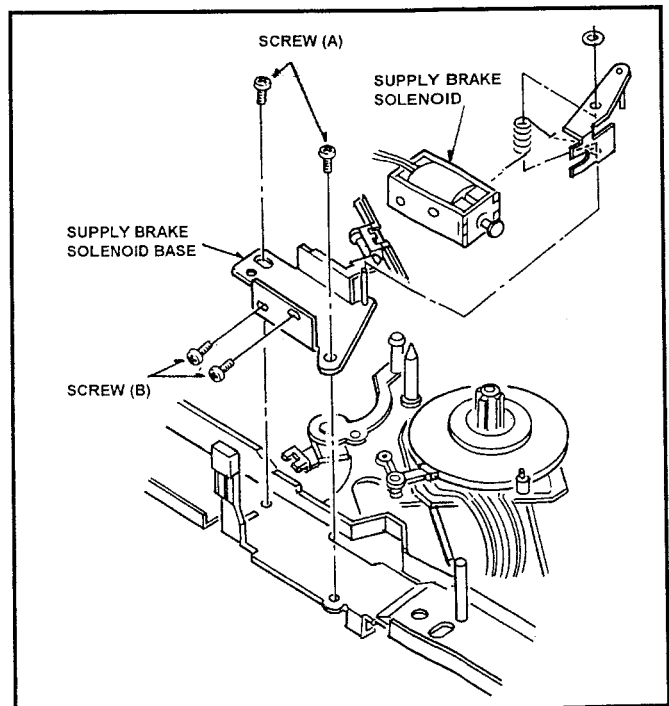

Fig. 6-10-1 Removal of Supply Brake Solenoid
6. Unscrew the 2 screws (A) and remove the Supply Brake Solenoid Base Unit as shown in Figure 6-10-1.
7. Unscrew the 2 screws (B) and remove the supply Brake Solenoid from Supply Brake Solenoid Base Unit as shown in Figure 6-10-1.